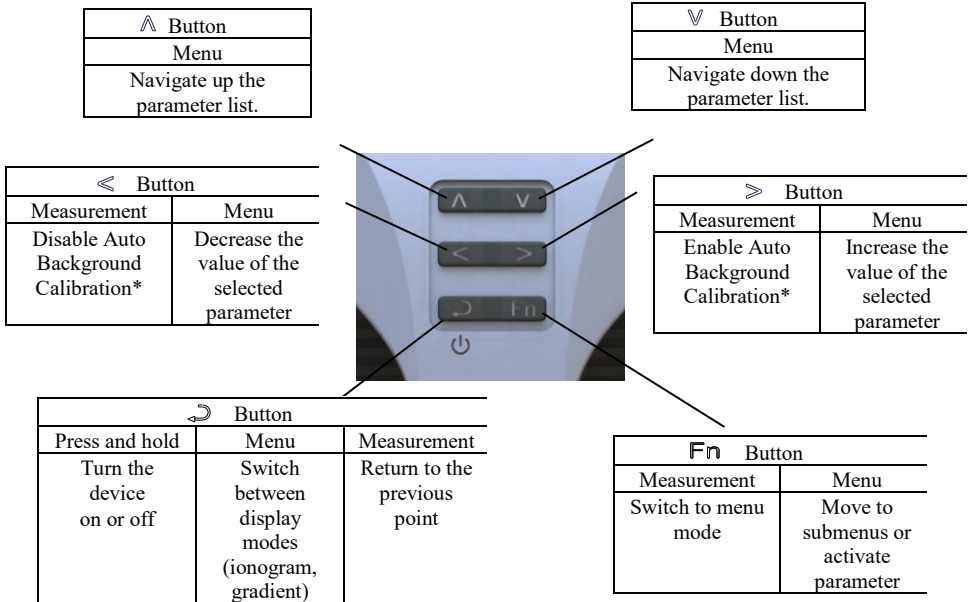

Figure 6. Description of the device buttons (* see section 3.3 of this manual).
The description of the device buttons is shown in Figure 6.
- Make sure that there is a yellow line along the display bottom edge, and make sure in the presence of a reference peak (blue line), shifted to the center of the display (Figure 6);